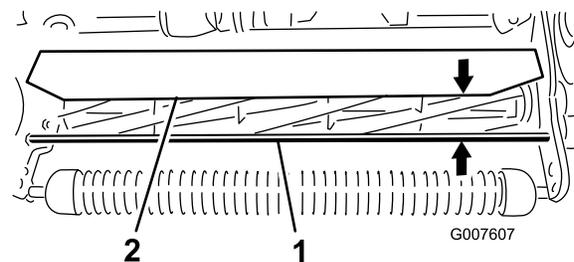

Figure 51
- Measure the distance from the top of the front support rod to the front lip of the shield at each end of the cutting unit (Figure 51).